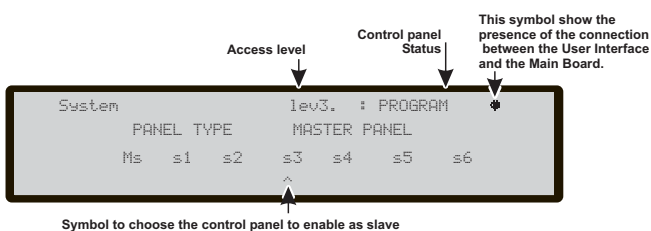

Figure 45 Page to program the address of Slave control panel.
- 1- use the 5 Key to select **Network**, from Programming page (Figure 45) in the User interface of the control panel to be configured;
- 2- the Display of Figure 45 will be shown;